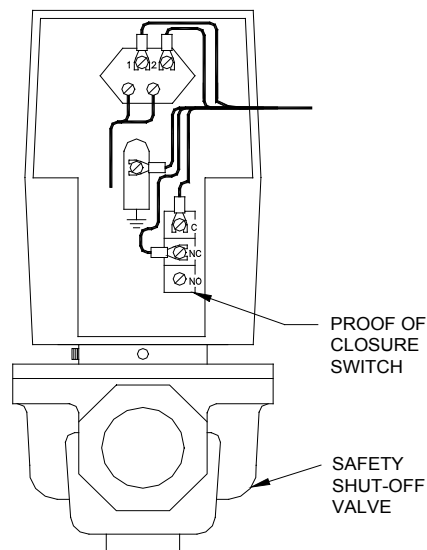
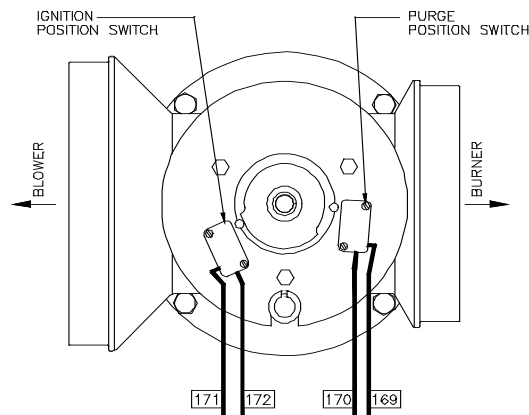

Figure 3.11
Figure 3.12
3. The system next checks for proof of closure of the safety shut-off valve, (see Fig. 3.11), and the air fuel valve rotates open engaging the purge position switch (see Fig. 3.12).